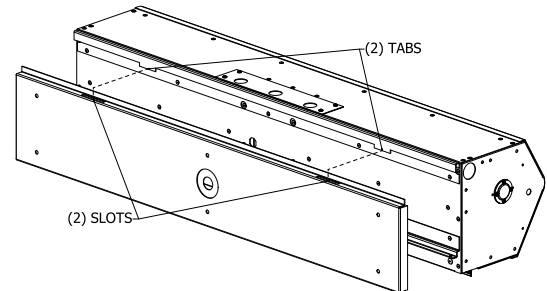

FIG. 3
5. Align the tabs on the rear of the unit with the slots provided on the wall mounting plate (FIG. 3). The bottom flange on the unit must also drop in the bottom channel of the wall mounting plate. Replace the Tek Screws to secure the unit in place.